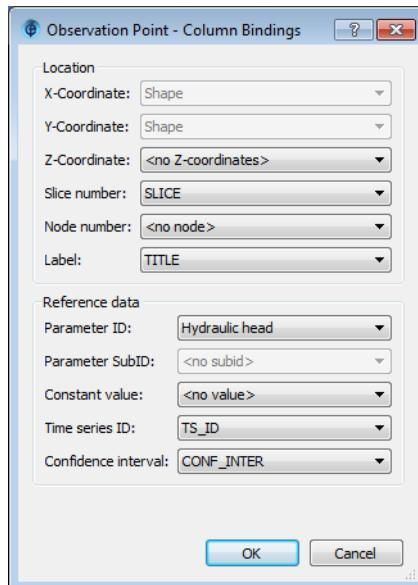

Figure 12.4 Observation Points import.
**SLICE** as **Slice number** and the field **TITLE** as **Label**. For the reference data, set **Hydraulic head** as **Parameter ID** (see Figure 12.4). As the flow equations are solved for transient conditions, the reference data that the results will be compared to are loaded from time series and not as time-constant values. Choose the field **TS\_ID** as **Time series ID**. The time series that contain the reference data have already been loaded to the model. As **Confidence interval**, choose **CONF\_INTER** and confirm the observation-point import with **OK**.